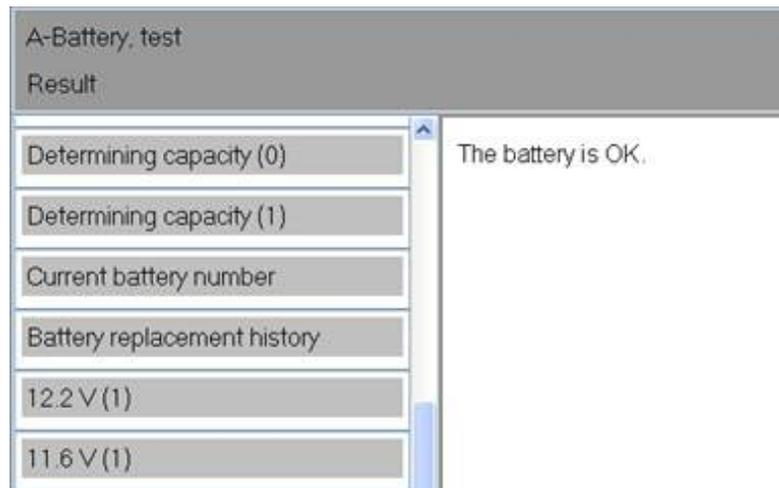

Figure 13. A-Battery, test.
- Test the battery through **A-Battery, test** (Figure 13). When asked if a new battery has been adapted in the last 5 days, select **No** to run the test.